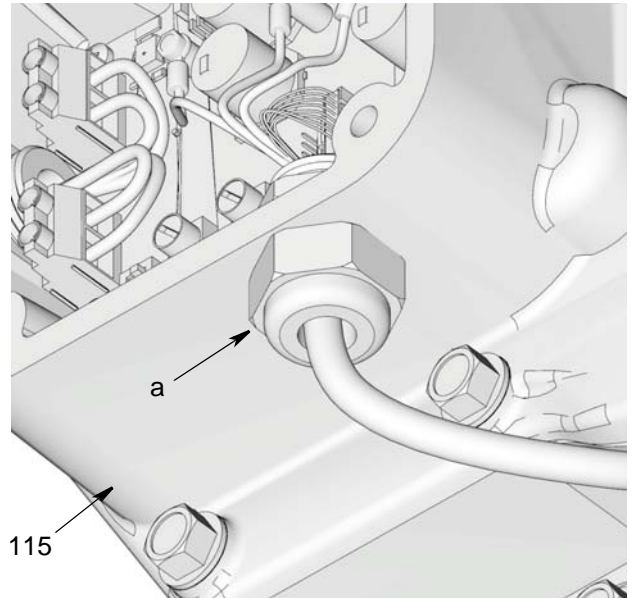

FIG. 57
- Use a wrench to loosen strain relief (a) and remove wiring harness from housing (FIG. 57).